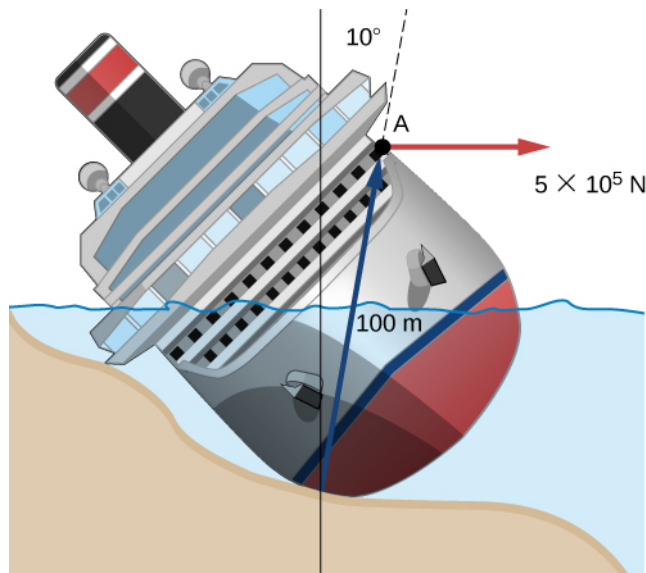

Figure 10.36 A ship runs aground and tilts, requiring torque to be applied to return the vessel to an upright position.
10.6 Check Your Understanding A large ocean-going ship runs aground near the coastline, similar to the fate of the *Costa Concordia*, and lies at an angle as shown below. Salvage crews must apply a torque to right the ship in order to float the vessel for transport. A force of 5.0×10^5 N acting at point A must be applied to right the ship. What is the torque about the point of contact of the ship with the ground (**Figure 10.36**)?